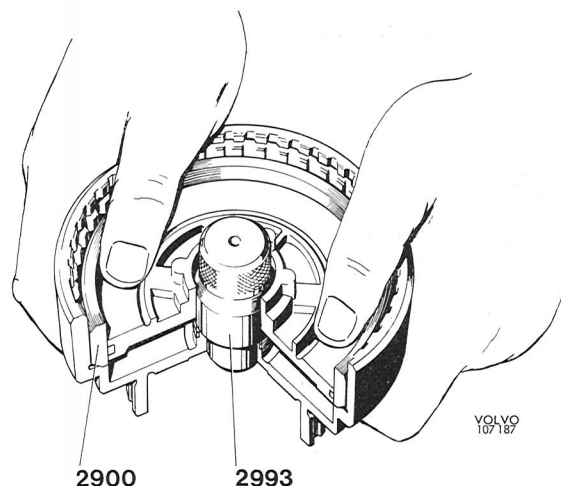

Fig. 4-120. Installation of piston for front clutch
16. Place the guide 2993 in the clutch housing (drum). Install the seal ring on the piston and a new O-ring in the drum. Place the piston in the installation ring 2900. Press it down until it is level with the lower edge of the ring. Place the piston over the guide in the clutch housing according to Fig. 4-120. Hold the housing in your hands and push down the piston with the thumbs. Remove the tool. Install the spring with the dished side facing rear. Install the snap ring.